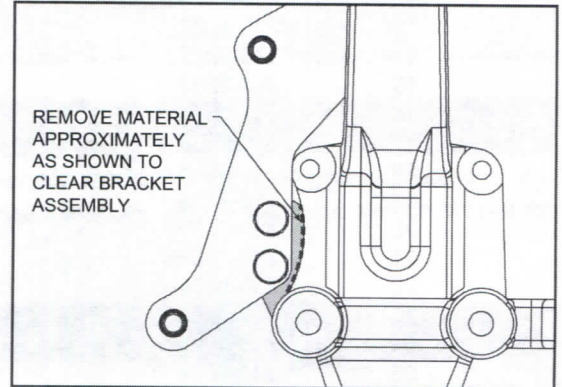

Figure 3. Spindle Modification
- Some minor modifications may be required to the OEM spindle to clear the bracket assembly in the new kit. Refer to Figure 3, page 4.
- Using the new bracket assembly (1) as a template, if necessary, remove material from the mounting flange of the OEM spindle in the area shown in Figure 3. Remove only the minimum amount of material necessary to clear the new bracket.